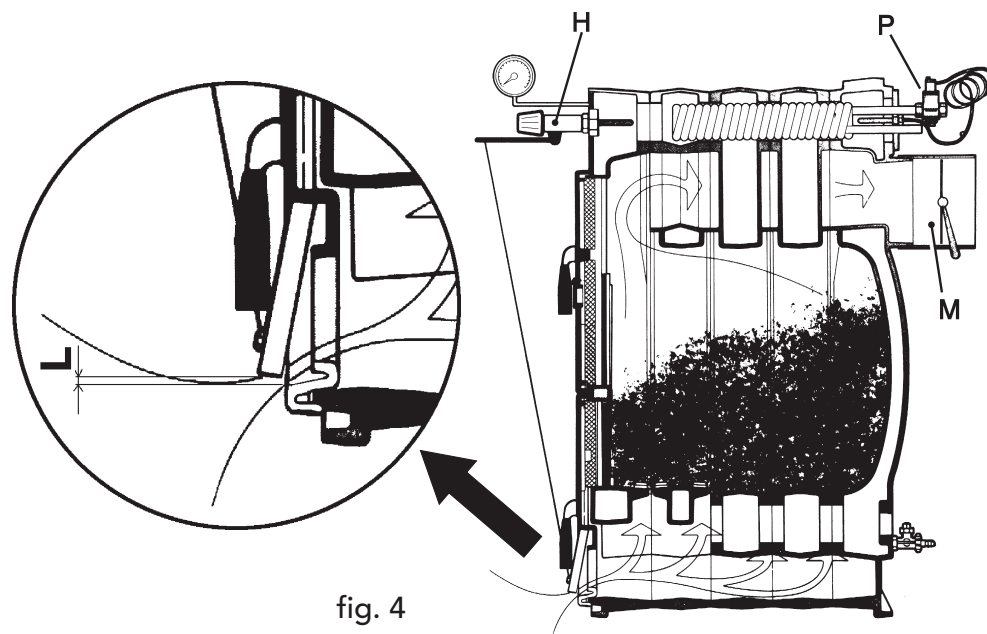

fig. 4
5. Adjust the air inlet shutter adjustment screw so that with the shutter resting there is still in any case an air passage of approximately 1 to 2 mm at the most. With boiler cold, set the thermostat control H to 60° and hook the chain of the thermostat control H onto the eyelet of the air inlet shutter, set the chain length so that the air passage "L" is about 15 mm for coke III and 2 mm for wood (see fig. 4).
- 1 Remove the chain and the arm from thermostaic regulator "H" (see fig. 4).